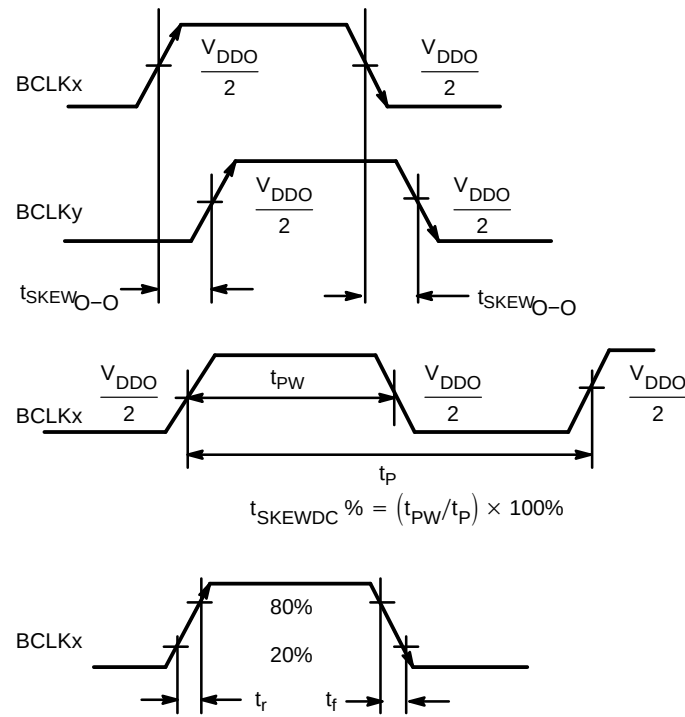

Figure 4. AC Reference Measurement
| $t_{\text{SKEW}_{\text{DC}}}$                                                                                                                                 | Duty Cycle Skew (See Figure 4)                            | 48                                                 | –   | 52   | %      |
| $t_{\text{SKEW}_{\text{DC}}}$    | Duty Cycle Skew (See Figure 4)                            | 47                                                 | –  | 53   | %      |
5. Crystal inputs  $\leq F_{\max}$ . Outputs loaded with  $50 \Omega$  to  $V_{DDO}/2$ . CLOCK (LVCMOS levels at XTAL1 input) 50% duty cycle. See Figures 4 and 7. See APPLICATION INFORMATION; Crystal Input Interface for CL loading.
| tSKEW DC                                                                                                                                          | Duty Cycle Skew (See Figure 4)                                                                                                            | 48               | –                            | 52               | %      |
| tSKEW DC                | Duty Cycle Skew (See Figure 4)                                                                                                            | 48               | –                            | 52               | %      |
| tSKEW DC                | Duty Cycle Skew (See Figure 4)                                                                                                             | 47               | –                            | 53               | %      |
5. Crystal inputs ≤ Fmax. Outputs loaded with 50 Ω to VDDO/2. CLOCK (LVCMOS levels at XTAL1 input) 50% duty cycle. See Figures 4 and 7. See APPLICATION INFORMATION; Crystal Input Interface for CL loading.